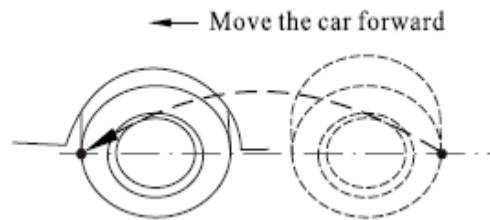

Figure 2
2)Push the vehicle forward so that the mark moves to the same position as the measured height. As shown in figure 2.